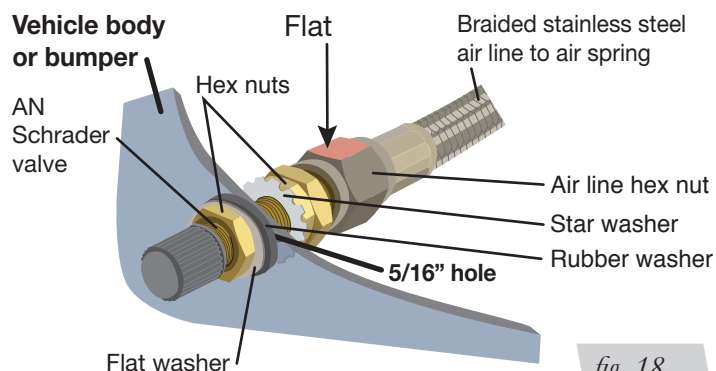

fig. 18
2. Tighten the air line hex nut finger tight, then use 2 wrenches to turn 1 additional flat (1/6 of one full turn). **Do not overtighten** (figs. 18 or 19). The easiest way to tighten the fitting is off the vehicle. Install the Schrader valve in the chosen location.